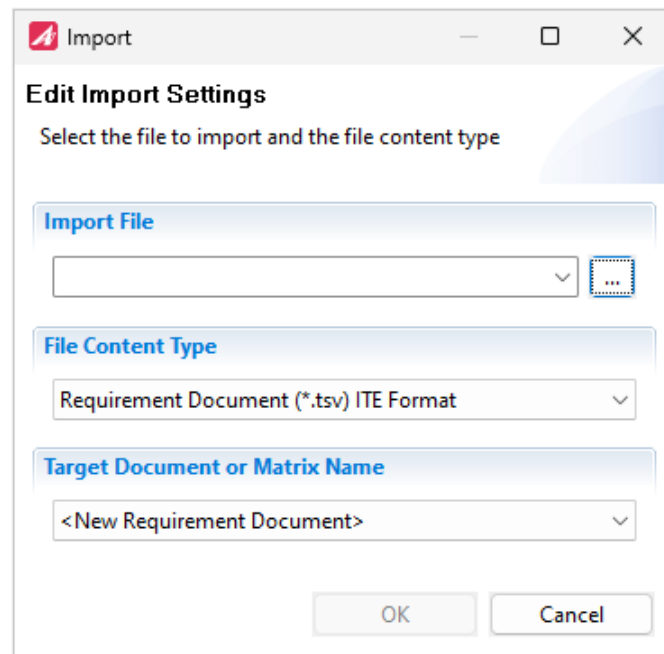

Figure 6.98: Import dialog
- The Import dialog opens (see figure 6.98).